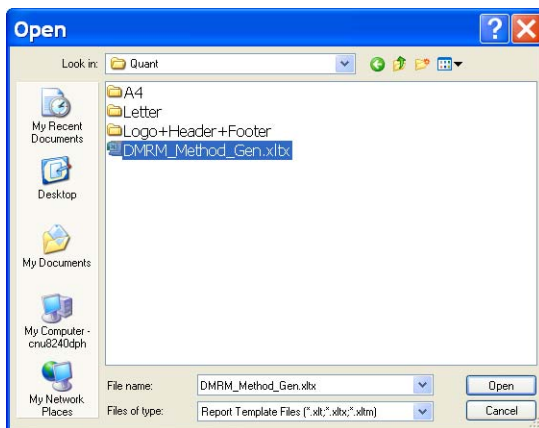

Figure 33 Open dialog box, with DMRM_Method_Gen.xltx selected
- d In the **D:\MassHunter\Report Templates\Quant** folder, click **DMRM_Method_Gen.xltx**, then click **Open**. See Figure 33.